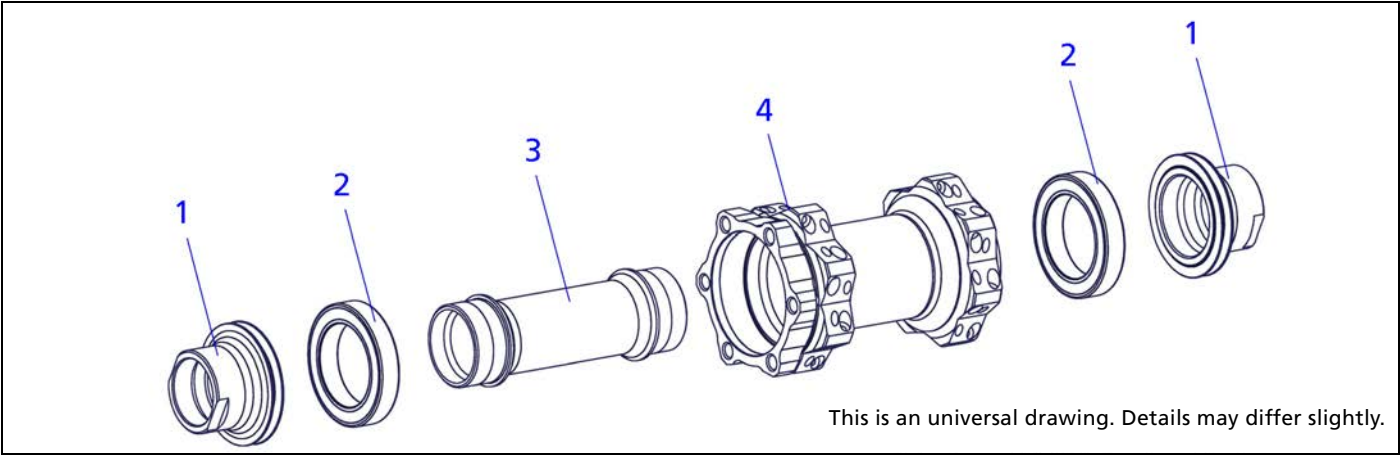

Figure 4-3: 240 Oversize
1. Loosen the adapter (fig. 4-3/1) using a wrench and remove it from the axle.
2. Slide the disassembly tool onto the axle (fig. 4-3/3).
3. Tap the bearing (fig. 4-3/2) and the axle out of the hub shell using the disassembly tool and a hammer.
8. Tap out the second bearing (fig. 4-3/2) using the disassembly tool and a hammer.
2. Put the axle (fig. 4-3/3) onto the mounting tool.
4. Slightly grease the bearing (fig. 4-3/2) and put it onto the disc side with the colored side facing outwards.
10. Slightly grease the bearing (fig. 4-3/2) and put it onto the non disc side.
1. Grease the bearings and the inner surface of both adapters (fig. 4-3/1).
2. Screw on both end caps (fig. 4-3/1) by hand.
3. Tighten the adapter (fig. 4-3/1) with 15 Nm using a wrench.